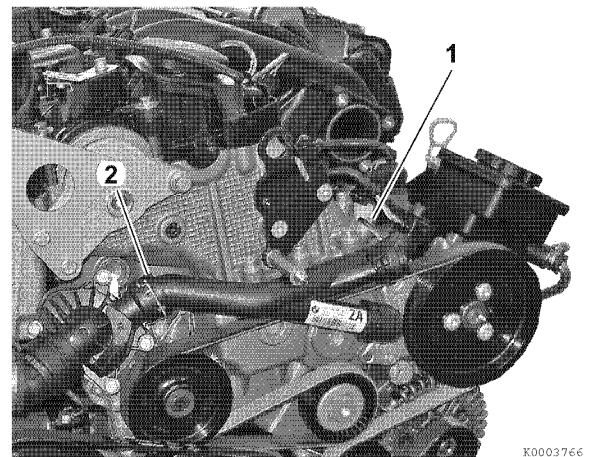

Figure 5-12
13. Remove oil cooler return pipe screw (1, **Figure 5-12**).
14. Release the locks and disconnect coolant return pipe (2, **Figure 5-12**). *See Disconnect and Connect Quick-Connect Fittings on page 7-10.*